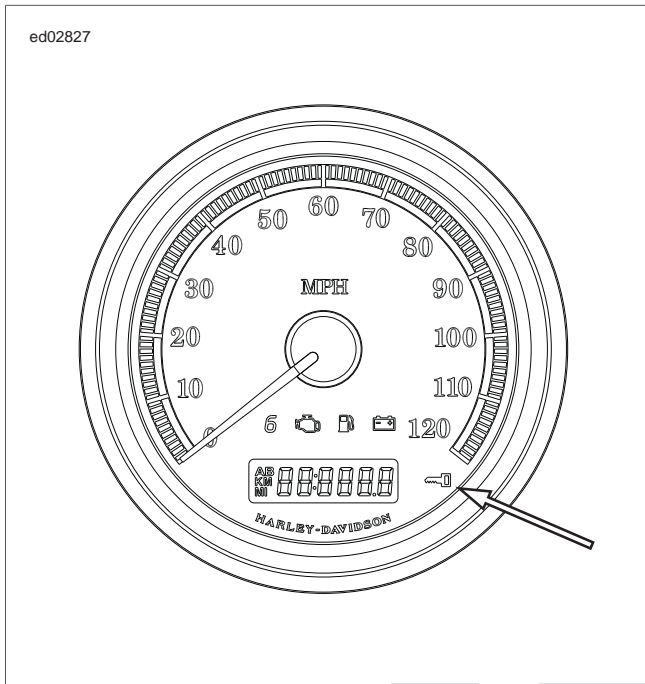

Figure 5-20. Security Lamp (key icon): Dyna Models
- **Security lamp:** See Figure 5-20. The security lamp (key icon) tells the rider if the system is armed or disarmed.